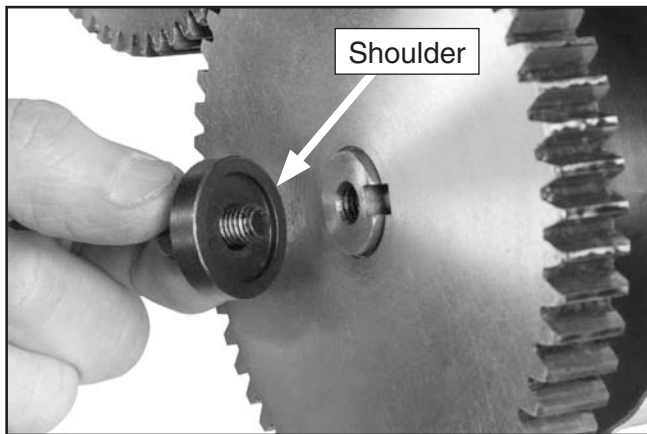

Figure 65. Shoulder washer positioning.
10. Slide the 57-tooth gear onto the lower spindle, install the shoulder washer on the spindle so the shoulder faces the gear (**Figure 65**), and install the cap screw.